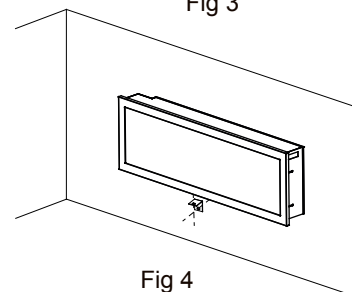

Fig 4
6. To prevent fireplace from moving, use the provided safety screw to fasten the fireplace to the wall. See Figure 4.